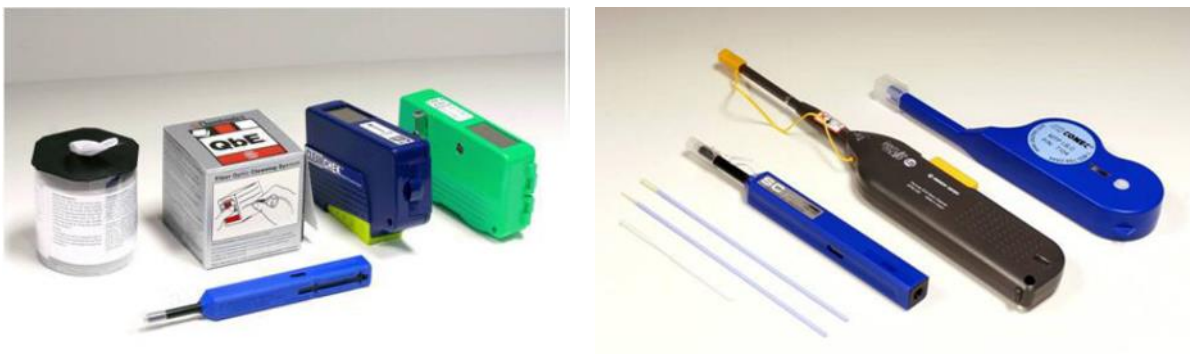

Figure 40. Examples of fibre cleaning wipes and tools for fibre optic connectors
1. Dry fibre cleaning device (sometimes called one click - e.g. Fujikura / US Conec see examples in Figure 40)